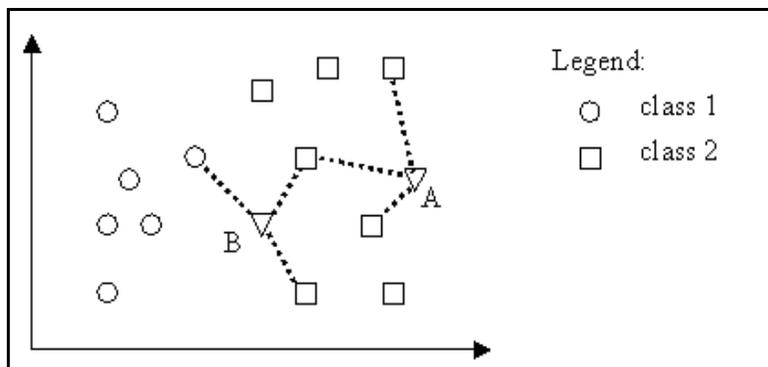

Figure 6-4 Classification of points A and B using three nearest neighbors
3. Each point is classified according to the class membership of the neighboring points (Figure 6-4).